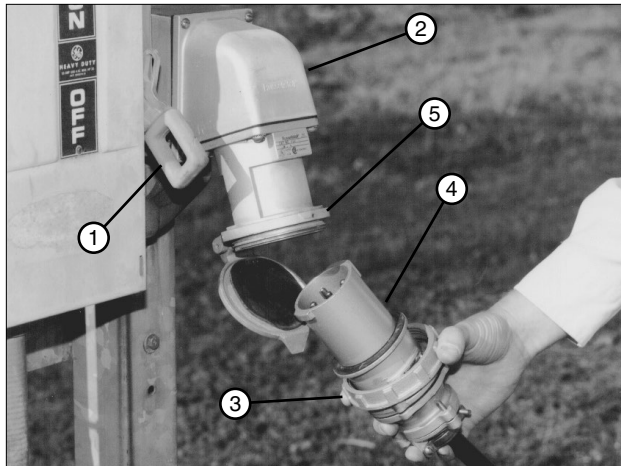

Figure 66-1
- Turn the power pedestal disconnect switch to the OFF position. See Figure 66-1.
- Remove plug cap from electric cord plug, and insert the electric cord plug into the power pedestal receptacle. See Figure 66-1.